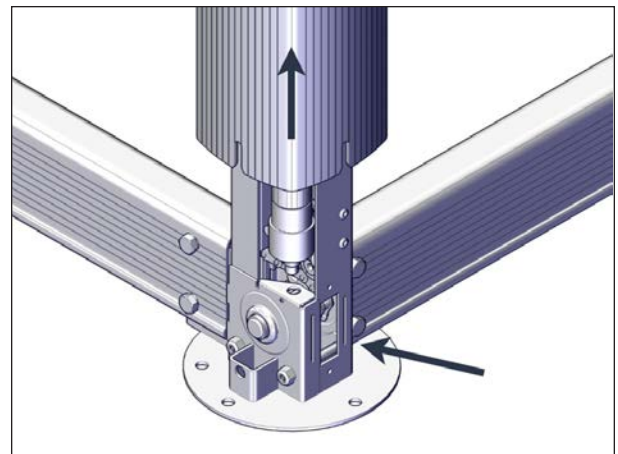

FIGURE 84: ACCESS TO THE CHAINS
2. Lift up the sleeve by hand and keep it safely in position with a wooden block, see Figure 84.
3. Locate the chain inside the post. The opening at the bottom of the post allows access to the chain, see Figure 84.